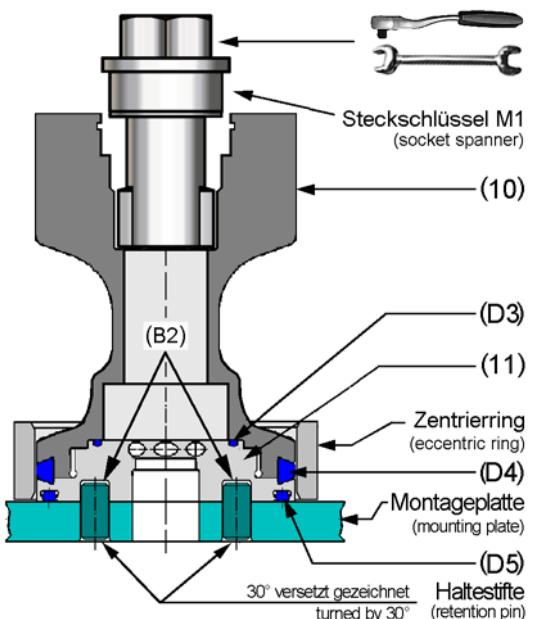
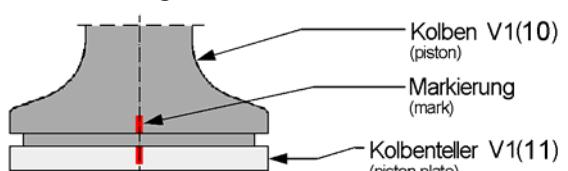

fig. 3
fig. 4
- Remove seal (D4), O-Ring (D6) and piston plate V2 (12).
- Unscrew the hexagon nut (16).
- Push lantern (14) in direction "X" until the hole (B1) is freely visible.
- Fix the mounting plate M6 with the retention pins in the piston plate V1(11) in the hole (B2) and hold against with the hook spanner M4 at the hole (B1). Unscrew the piston plate V1(11) with the piston V1(10).
- Push against direction 'X' the insert (7), the seal (D1) and the bearing bush (8) from the piston V1(10).
- Unscrew the piston V1(10) from the piston plate V1 (11) with the socket spanner M1 (see fig. 3 /page 8).
- Dismount the valve lift stop (15).
- Screw in piston plate V1(11) without the seal (D4) to the metal limit stop in the piston V1(10).
- Make a color marking at the piston surfaces and disassemble the piston V1(10) and the piston plate V1(11) (fig. 4 /page 8).
- Push the seal (D4) into the piston V1(10) and screw the piston plate V1(11) into the piston V1(10) by hand.
- Clamp the mounting plate into a vice and fix the piston plate V1(11) (see fig. 3 /page 8).
- Position the eccentric ring M3 on the seal (D4) (see fig. 3 /page 8).
- Position the socket spanner M1 and screw the piston V1(10) up to the final limit mark (fig. 4 /page 8).
- Screw in piston plate V2(12) without the seal (D4) to the metal limit stop in the piston V2(13).
- Make a color marking at the piston surfaces and disassemble the piston V2(13) and the piston plate V2(12) (fig. 4 /page 8).
- Push the seal (D4) into the piston plate V2(12) and mount it into piston V2(13).
- Screw the piston V2(13) up to the final limit mark in the piston V1(10).